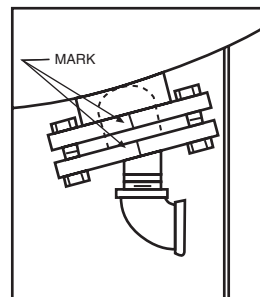

Figure 3
6. Unbolt and remove system connection after marking flanges in order to align during reassembly (Figure 3).
22. Rebolt system connection after aligning flange marks (Figure 3). Torque to 40-50 ft. lbs.